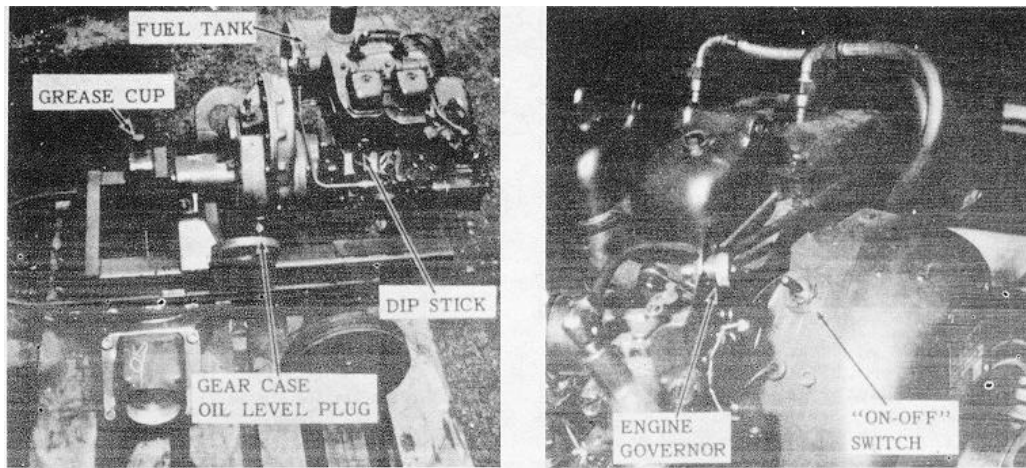

FIGURE 2A RECIPROCATING PUMP SERVICE POINTS AND ENGINE CONTROLS.
10. Starting - Fig. 2A.
11. Stopping - Fig. 2A - Shut off engine by flipping the "on-off" switch to "off" position. If pump is to remain in its present location, engine need only be shut off.